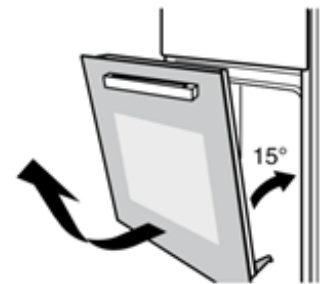

Figure 2
② Close the oven door, at about 15 degree, then lift the door, and slowly pull out from the oven.(Figure 2)